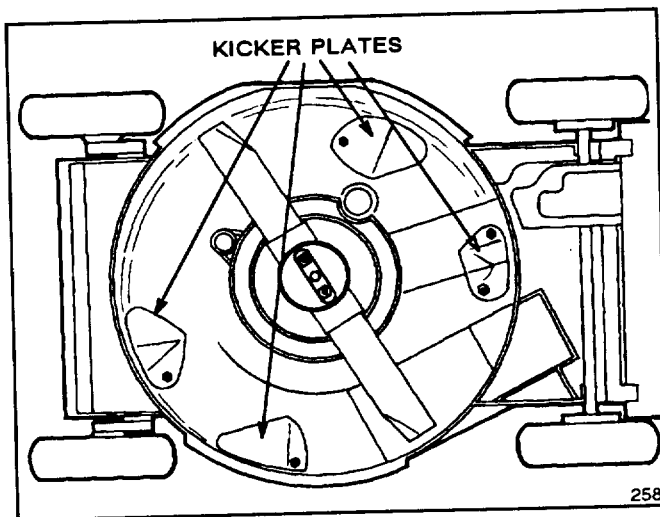

Figure 4
- Four special "kicker plates" positioned on the underside of the mower deck in strategic positions (Fig. 4)